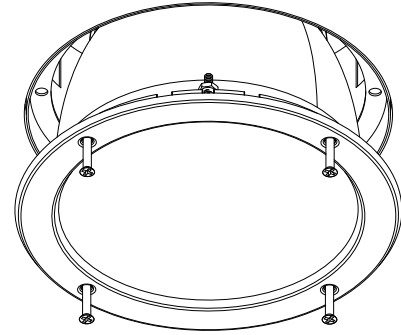

Figure 6
6. For trims with screws, insert the trim into the plaster ring and rotate until the four reflector screws pass into the four holes in the plaster ring. The four trim mounting screws are now aligned with the cage nuts in the plaster ring and may be tightened to secure the trim. See Figure 6.